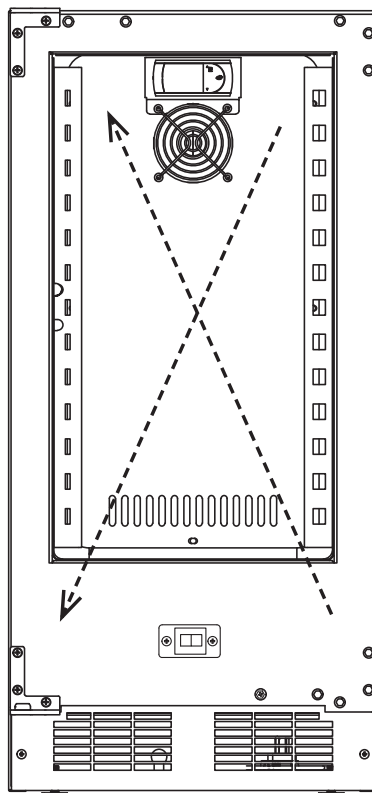

FIG. 11
**Step 9.** Attach the Upper Right Hinge to the lower left corner, then attach the Lower Right Hinge to the upper left corner. See figure 11.